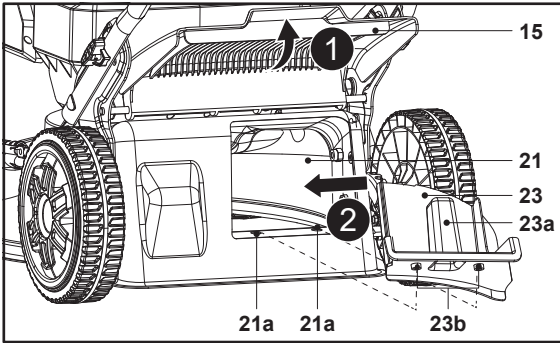

Fig. 12
1. Open the rear deflector guard (15), hold the mulching insert handle (23a) in position and insert the mulching insert (23) into the rear discharge chute (21) (Fig. 12). Ensure the two locking latches (23b) snap into slots (21a).